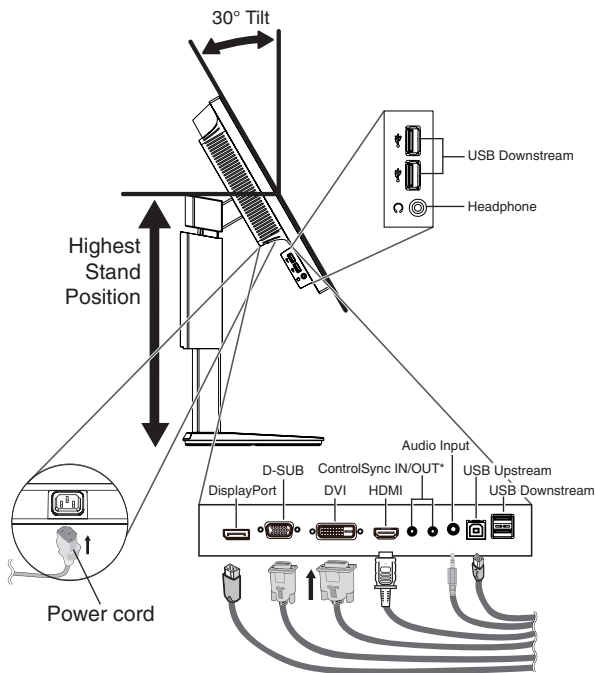
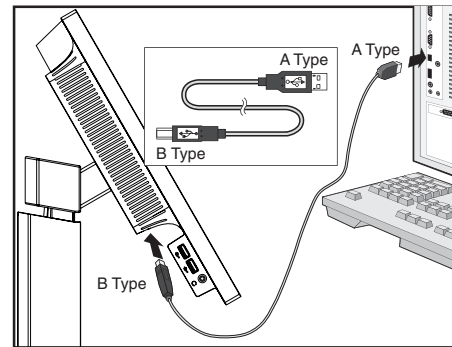

Figure C.1
Figure C.1a
- Connect all cables to the appropriate connectors (**Figure C.1**). When using the USB cable, connect the B type connector to the USB upstream port on the right back side of the monitor and the A type connector to the downstream port on the computer (**Figure C.1a**). If using the cord from a USB device, plug into one of the downstream ports of the monitor.